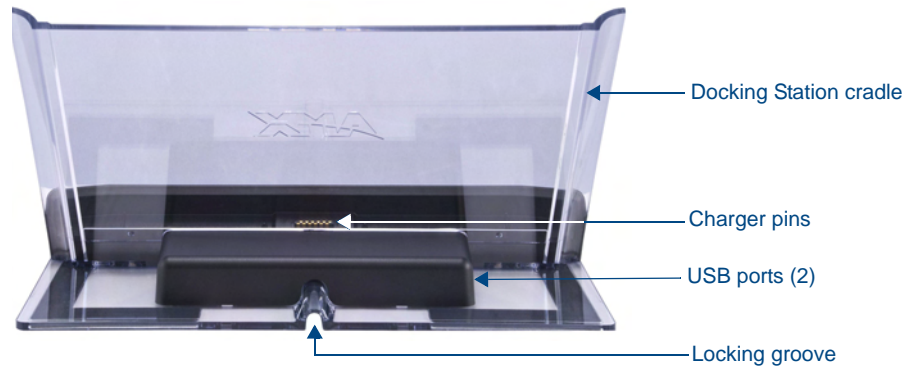

FIG. 7 MVP-TDS-9-GW Table Docking Station - Rear
2. To prevent wear on the power supply cord and assure that the device's base is in full contact with the table surface, press the cord into the locking groove running across the bottom of the device (FIG. 7).
4. Place the touch panel in the Docking Station cradle, guiding it into place with the locking grooves on each side of the cradle (FIG. 7). When fully seated, the touch panel's Docking Station connector should be in contact with the Docking Station's charger pins.
To recharge the MVP-9000i, slide the device into the Table Docking Station cradle bottom-first and make sure the device is fully seated in the Docking Station. The charger pins in the bottom of the cradle (FIG. 7) must be in contact with the connector on the bottom of the MVP-9000i for it to start recharging. The MVP panel will stop recharging automatically once the battery has achieved its maximum charge.
The MVP-TDS-9 has two USB ports on the left of the device behind the Docking Station cradle (FIG. 7). These ports may be used for transferring files to the MVP-9000i, as well as ports for USB-powered accessories.